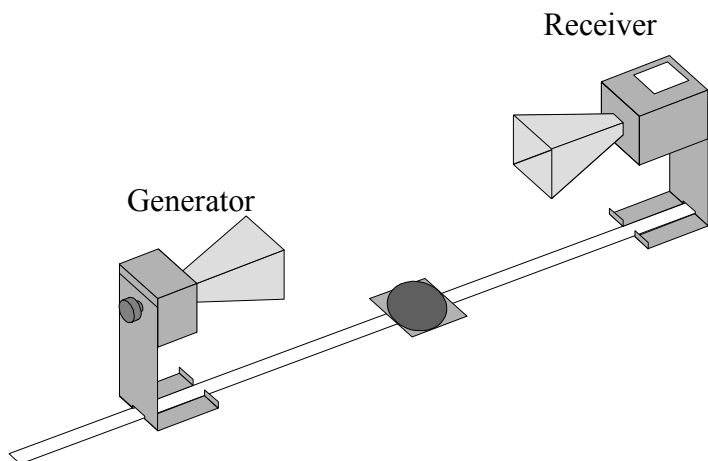

Fig. 8. Microwave generator and receiver arrangement.
1. Replace the detector probe and reflector with the receiver, as shown in Fig. 8. Set the knob on the back of the receiver to 0° . Starting with the